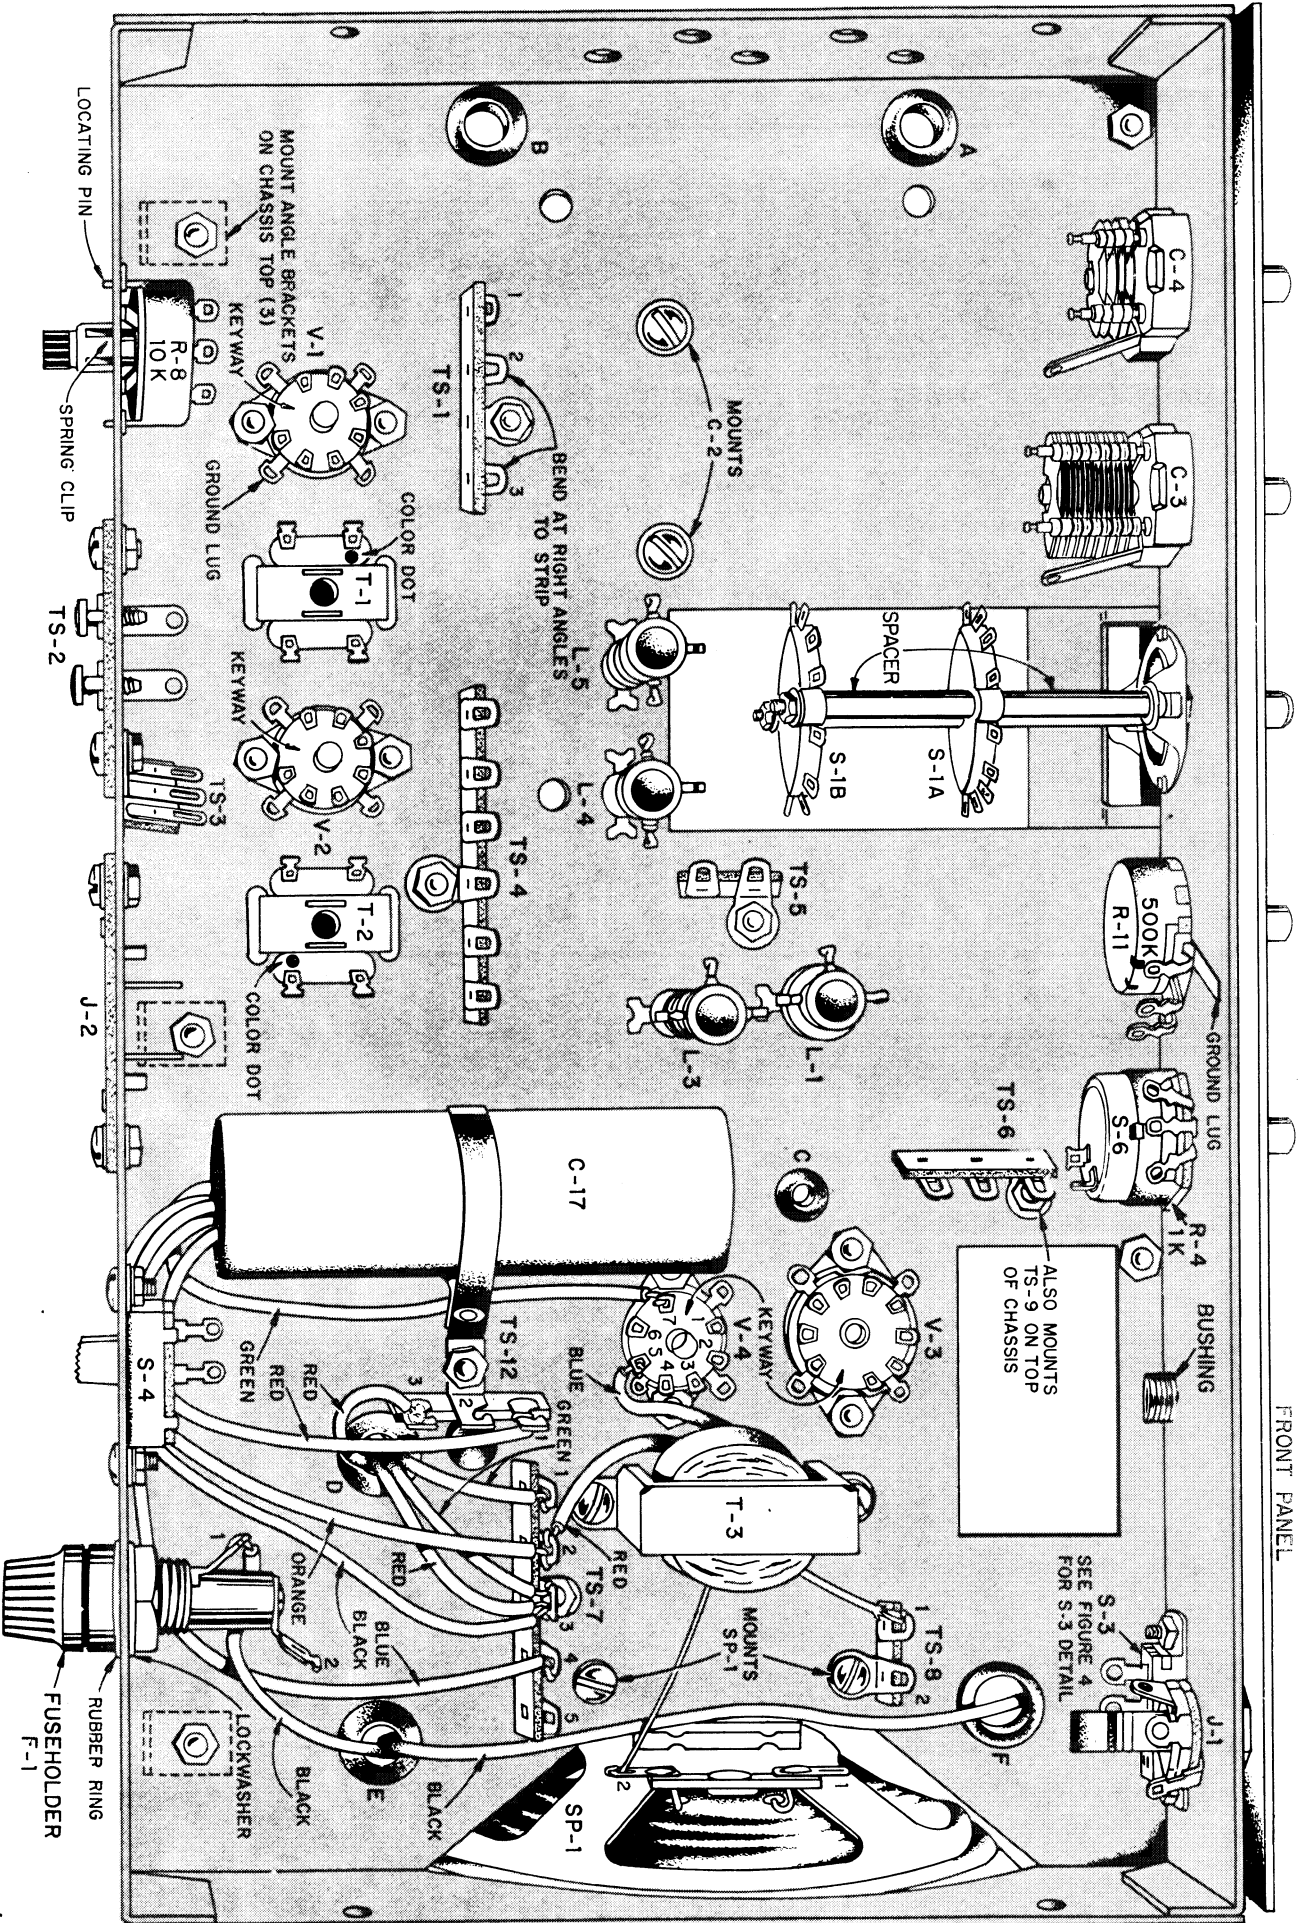

FIGURE 1. PARTS MOUNTING
SEE FIGURE 1.
- ☑ 5 large rubber grommets. Insert in holes A, B, D, E and F, as shown in Figure 1.